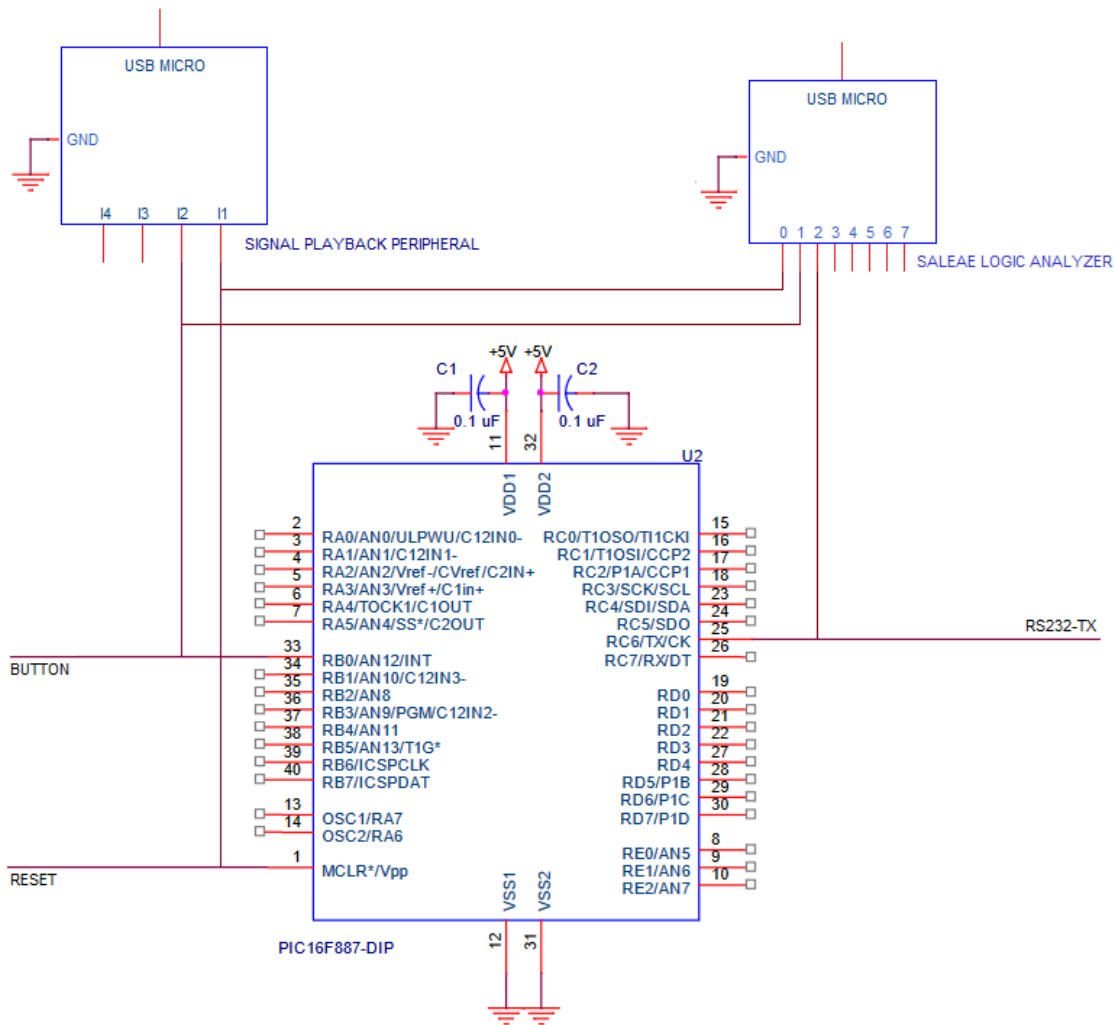

Figure 6: Circuit diagram for button duration experiment example
2. Assemble the target device circuit shown in Figure 6: Circuit diagram for button duration experiment example